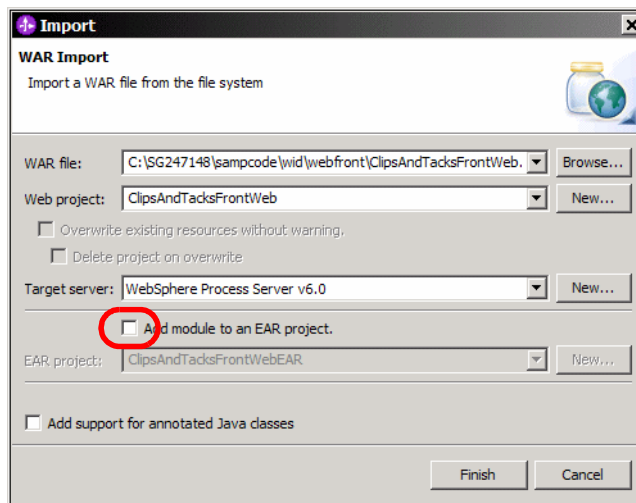

Figure 9-38 Import Web front-end WAR file
- ▶ Click *Finish* (Figure 9-38).